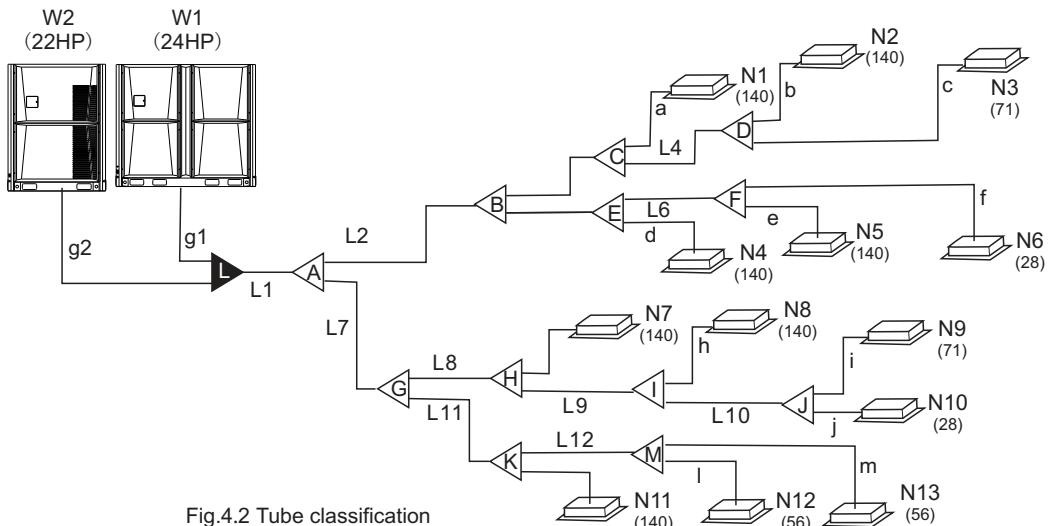

Fig.4.2 Tube classification
2) E.g.: The capacity of downstream indoor units after L₂ in Fig.4.2 is 140×4+28+71=659, so the gas tube and liquid tube of L₂ are respectively: Φ28.6 and Φ15.9.